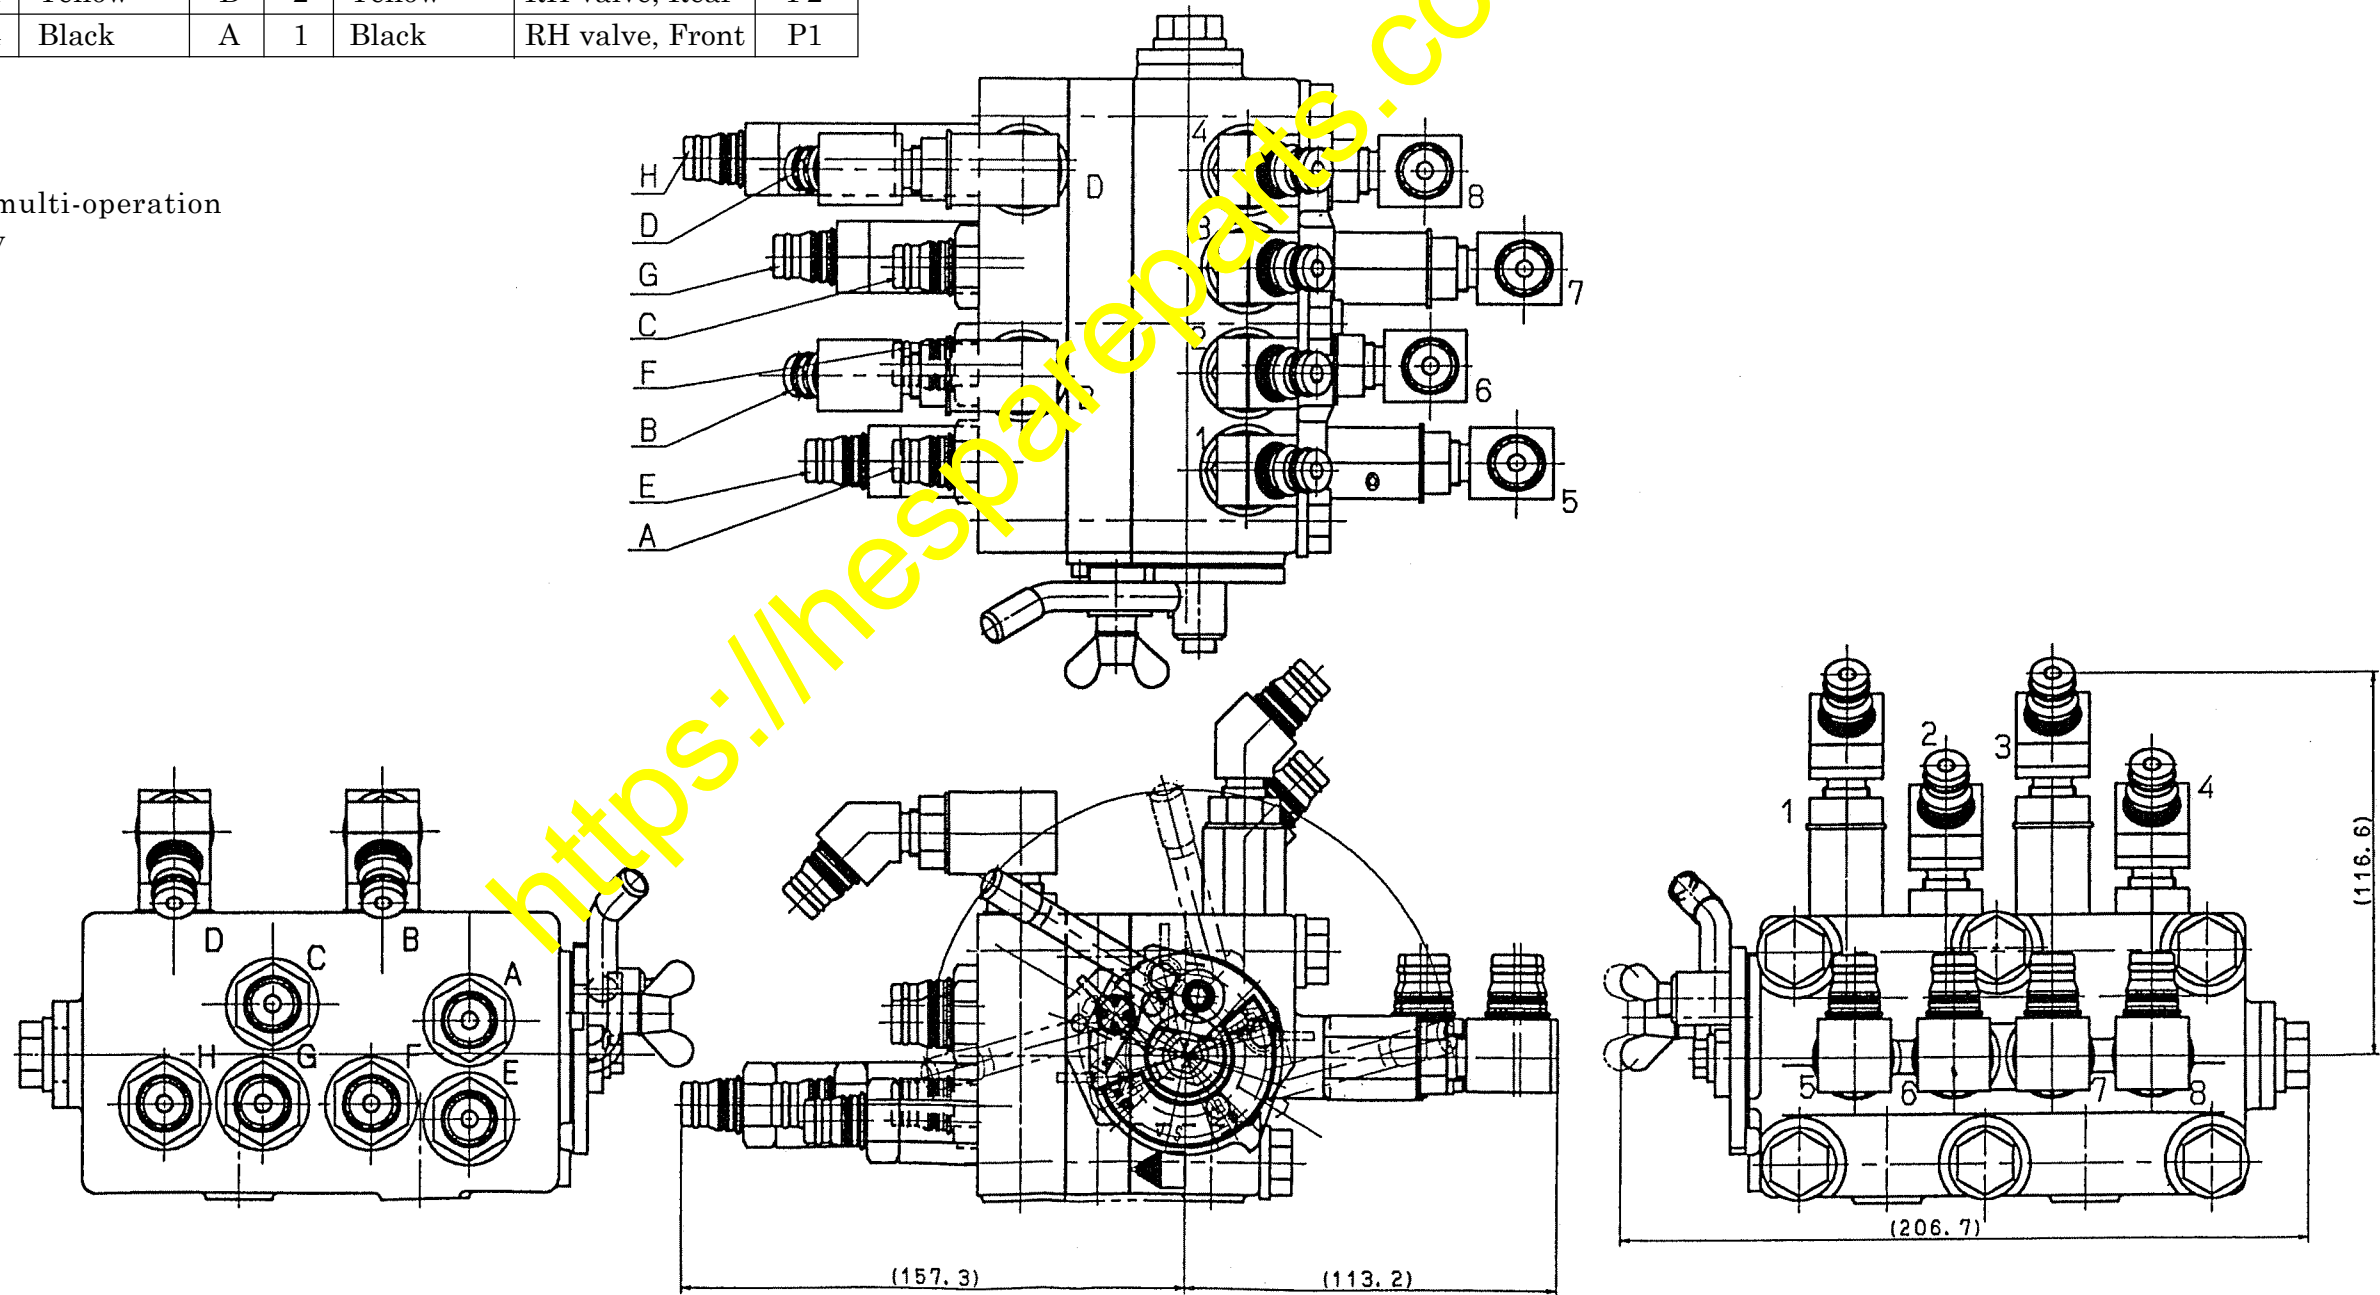

Fig. 11
- 6-1) Connect the hoses to the multi-operation pattern selector valve ass'y ①, referring to the "Hose connection table" (Table 1 on page 13) and "Detail drawing of the multi-control valve ass'y" (Fig. 11 on page 13).